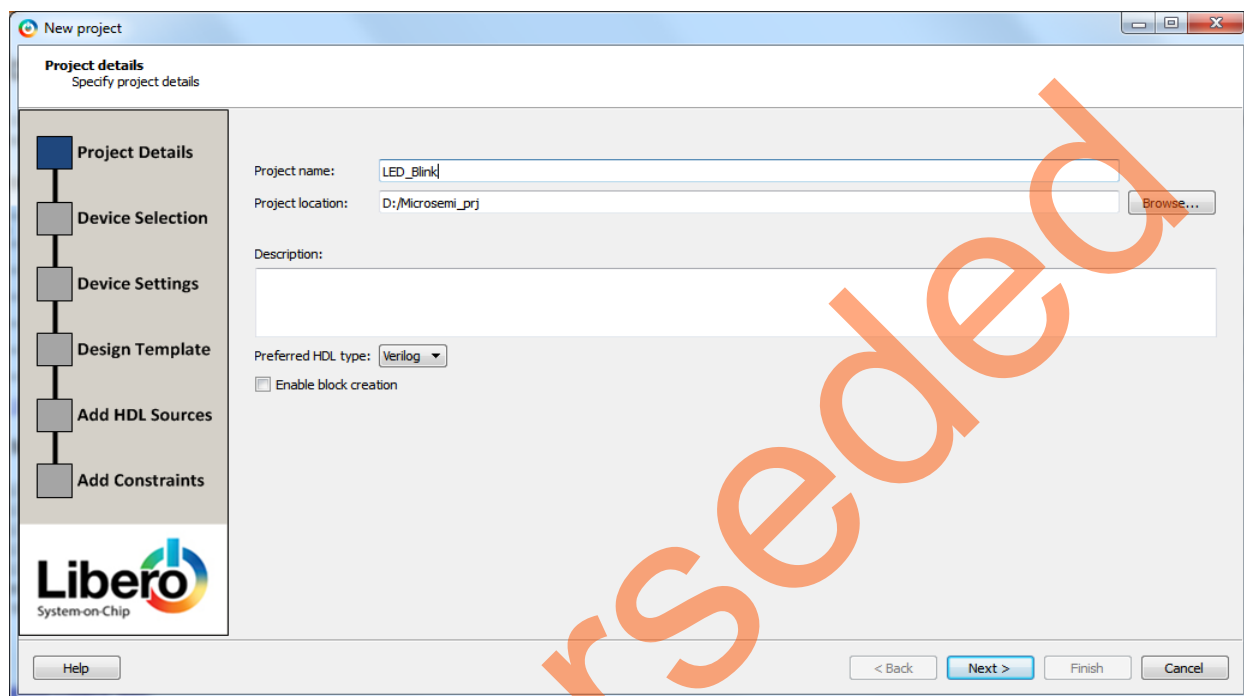

Figure 2 • Project Details Window
3. In the **Project Details** window, enter the following information as shown in Figure 2.